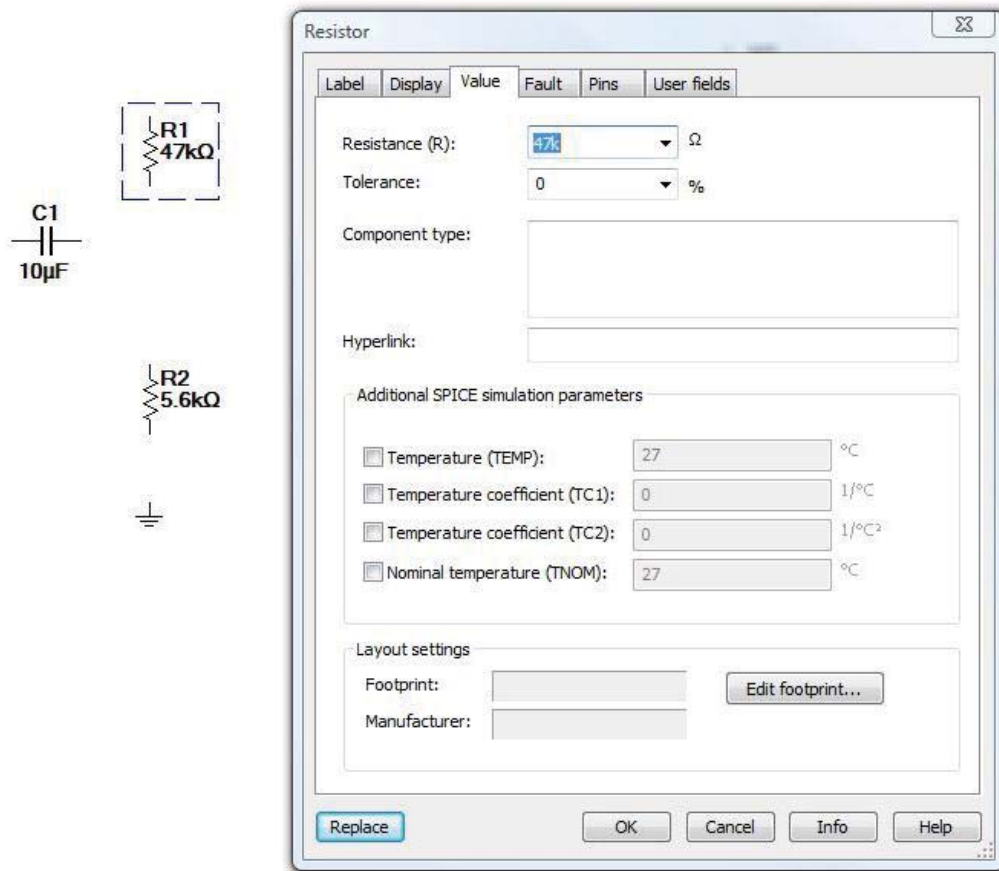

Figure 15
7. Double click on a resistor. In the “Resistance” property box change the value from 1 to 47 kOhm. See Figure 15.